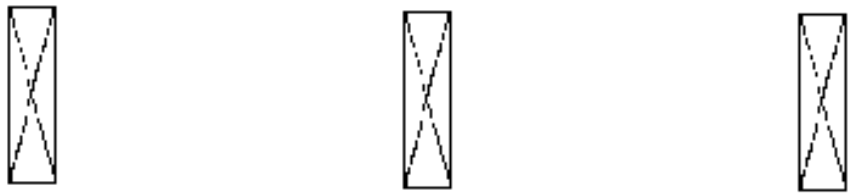

Fig. 4
10. (a) Complete Fig. 4 to illustrate **TWO** methods of strutting timber upper floor joists.